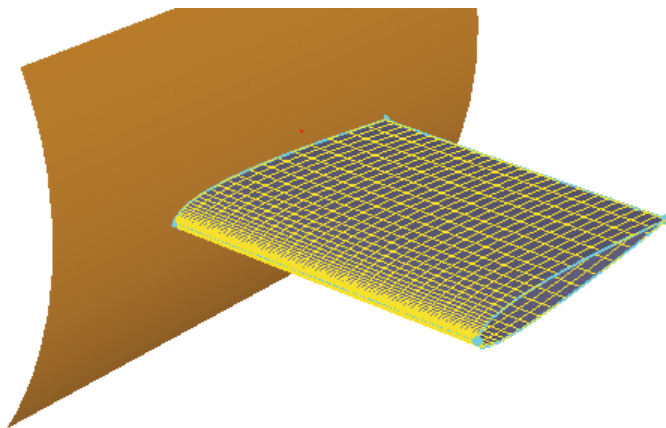

Figure 1
This issue of the Pointer will highlight a capability recently added to Version 15. A new boundary condition (BC) has been added to both the hyperbolic (**Type Hyp**) and normal (**Type Nrm1**) extrusion methods. This new BC allows you to extrude a domain into a block, or a connector into a domain, while constraining one or more boundaries to lie on a database surface or surfaces. A common example and perfect application for this new addition is seen in turbo-machinery type applications where a blade spans the gap between hub and shroud surfaces. A generalized example including a simulated "hub" surface is shown in Figure 1.